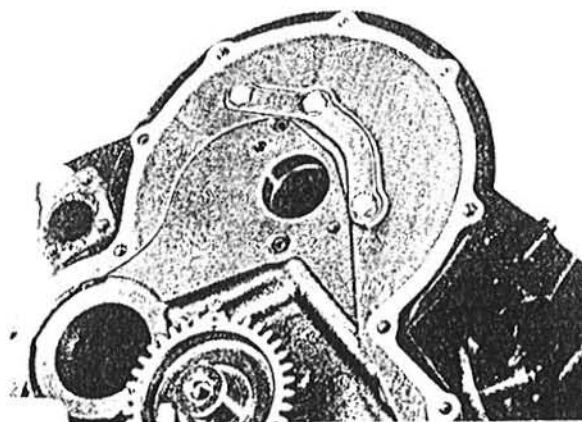

Fig. 1.17 Adapter plate reinforcement (Sec 83)
- 3 Fit the adaptor plate reinforcement (Fig. 1.17); insert its three bolts and tighten them, then remove the two previously inserted locating bolts.